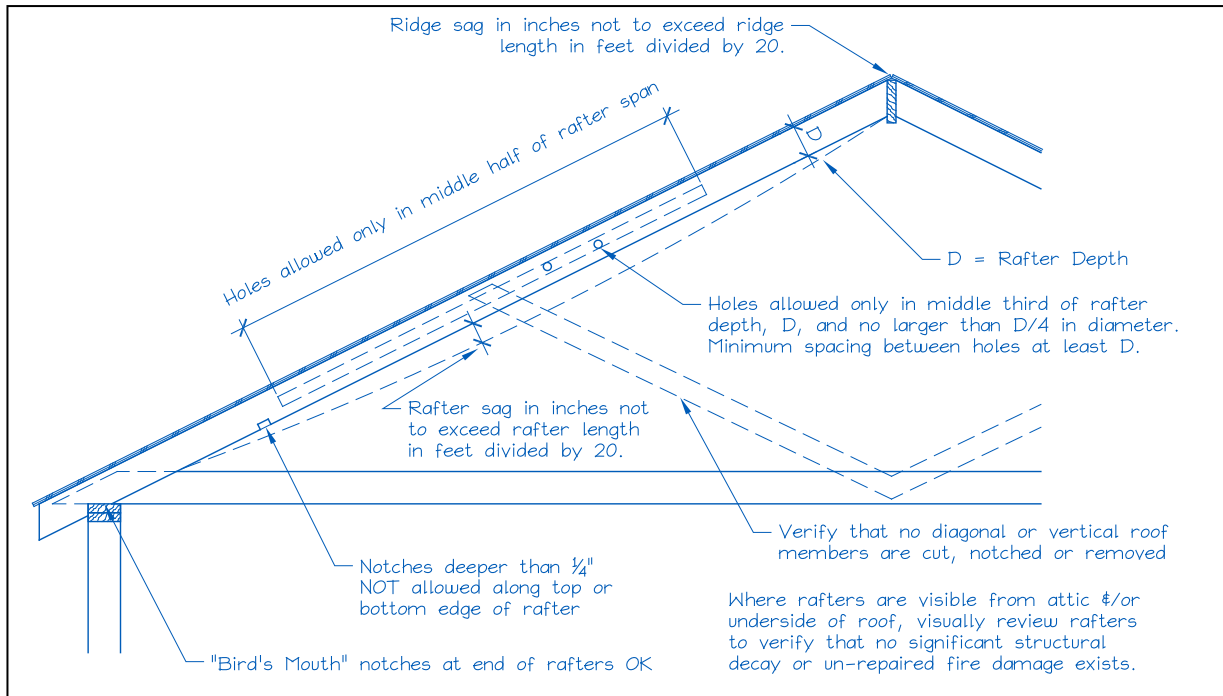

Figure 1. Roof Visual Structural Review (Contractor's Site Audit) of Existing Conditions
- 2. Does the roof structure appear structurally sound, without signs of alterations or significant structural deterioration or sagging, as illustrated in Figure 1? Yes No